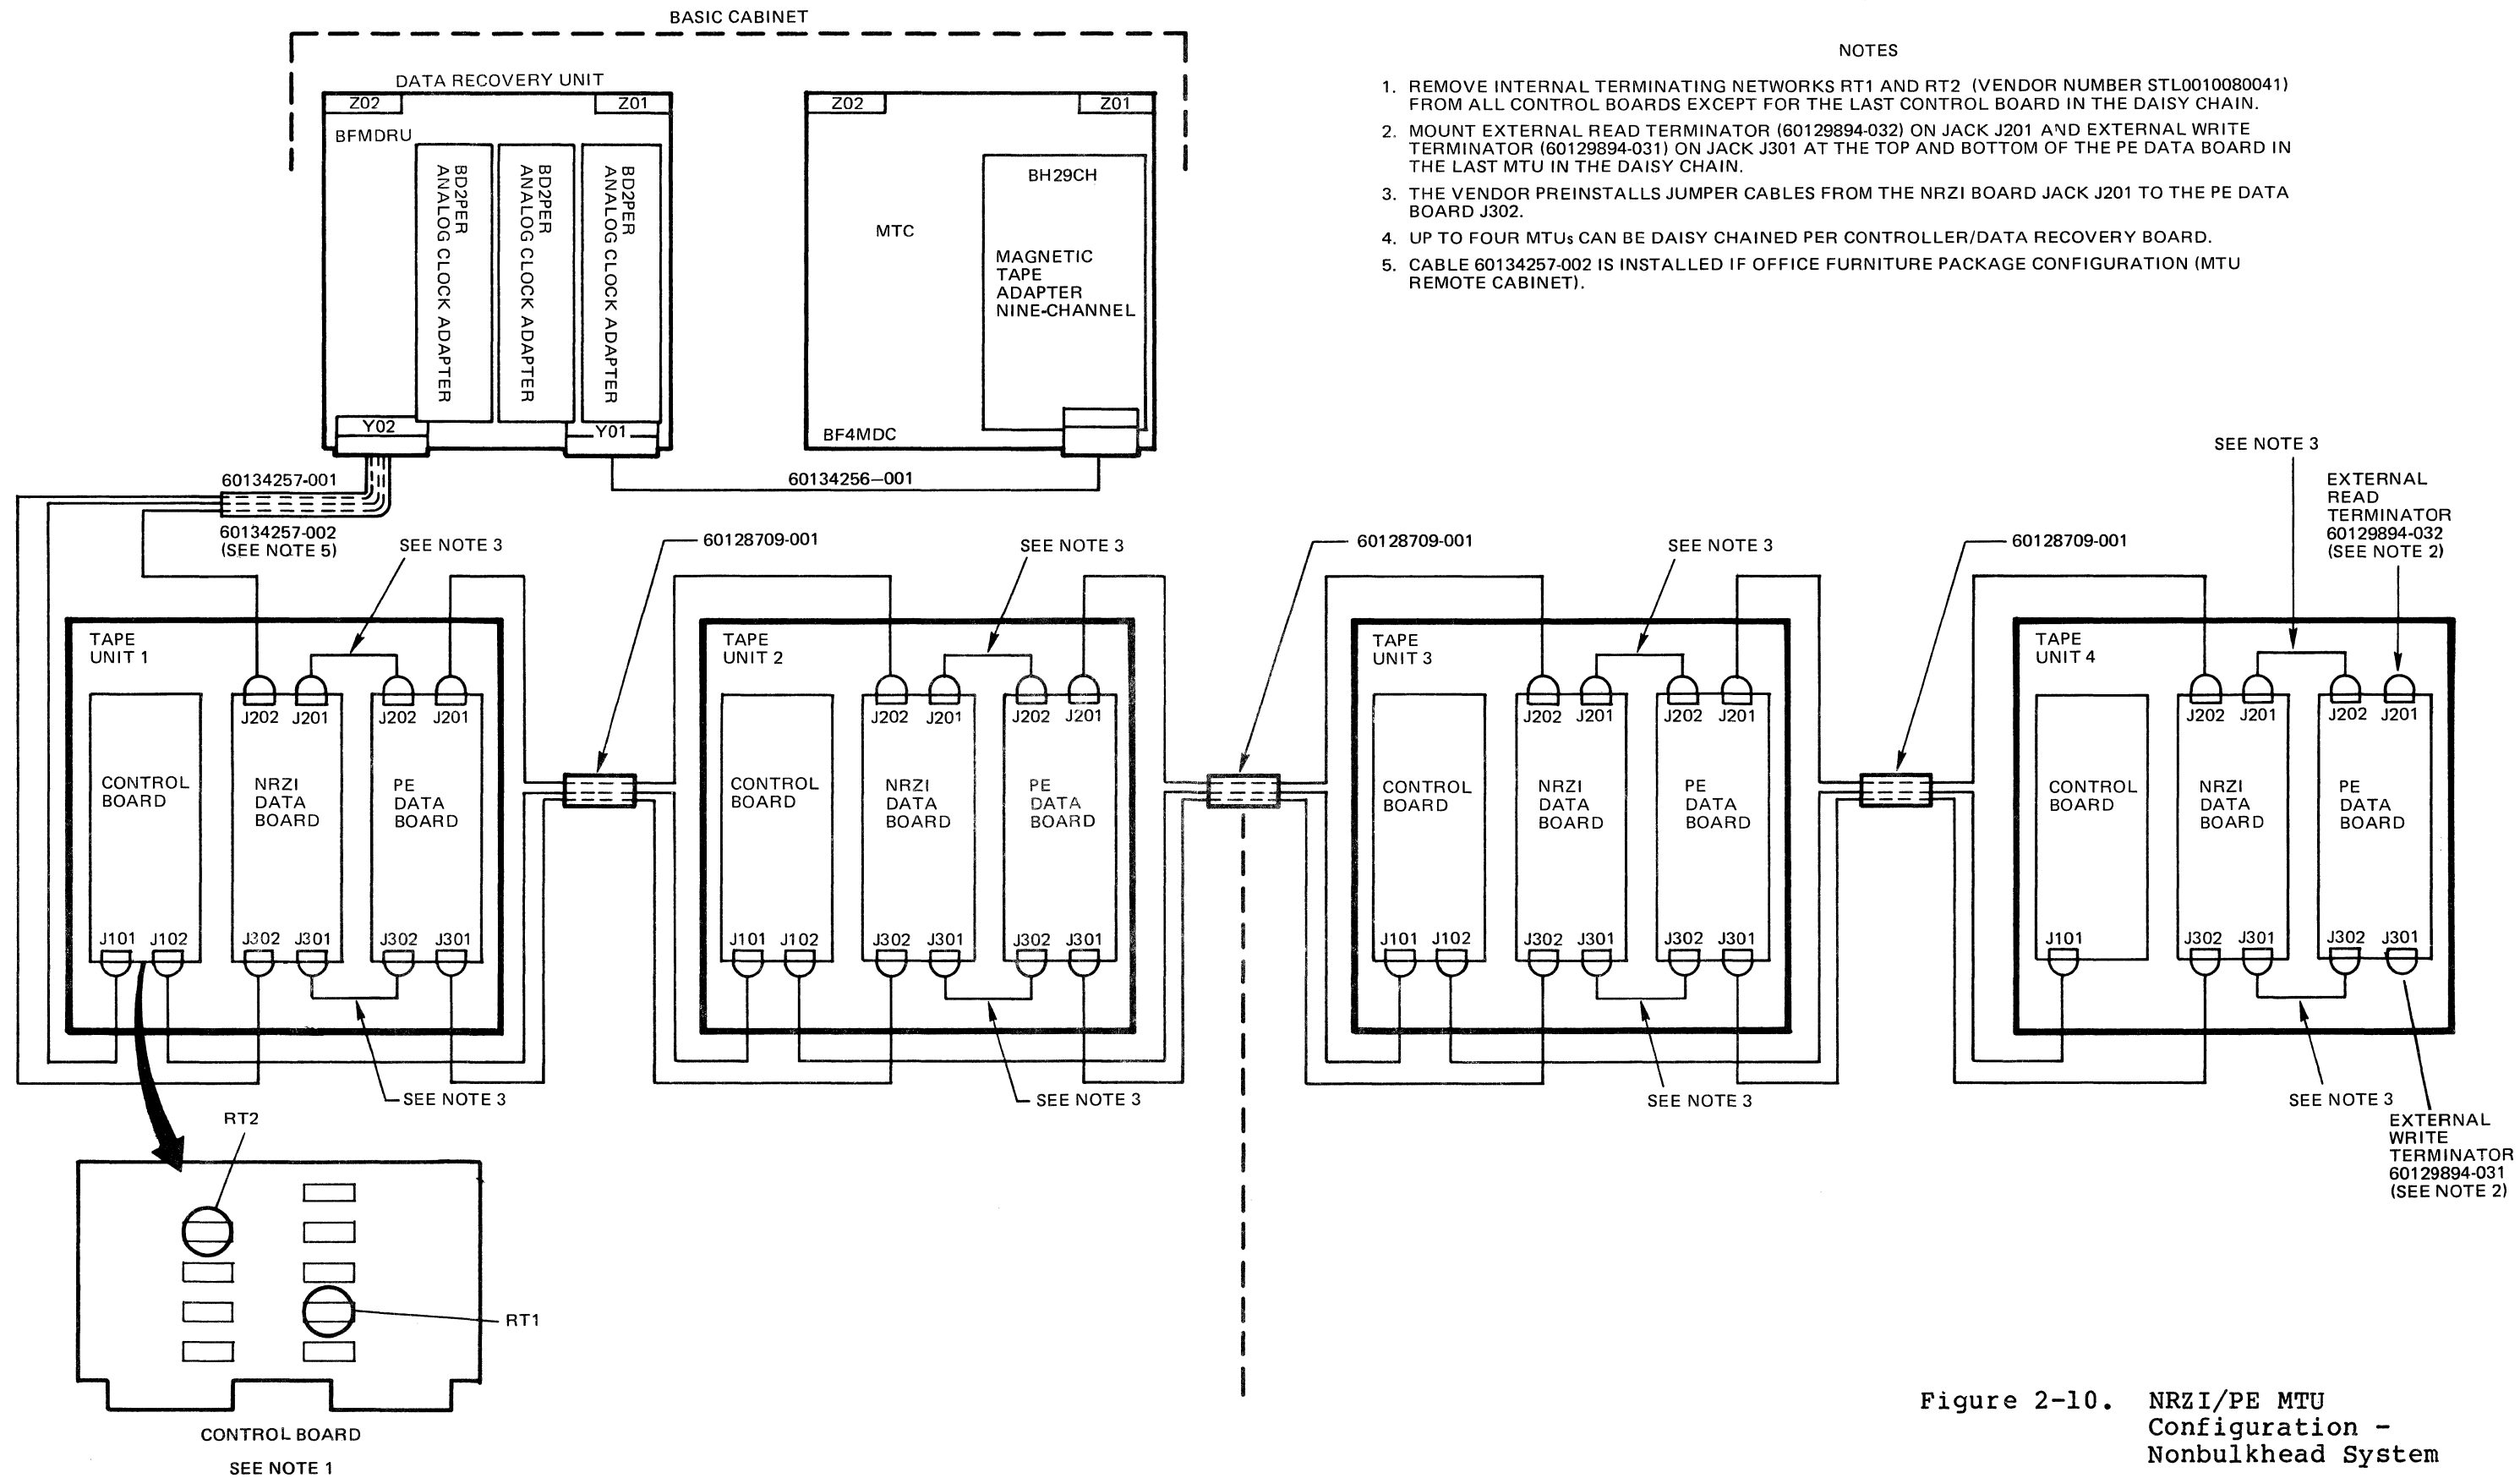

Figure 2-10. NRZI/PE MTU Configuration - Nonbulkhead System
To cable the first MTU from the MTC/Data Recovery Unit in the basic cabinet (see Figure 2-10), perform the following procedures.
Ensure that the first MTU cabling procedures are performed in the configuration (see Figure 2-10). Then, from the first MTU, verify or connect the connector plugs as follows:
2. At the second MTU (see Figure 2-10), verify or connect the connector plugs as follows:
5. Ensure that the last MTU in the daisy chain has the following external terminators (see Figure 2-10) installed and connected as follows:
6. Ensure that the internal terminating networks RT1 and RT2 (see Figure 2-10) are removed from the MTU control board in all MTUs except the last MTU in the daisy chain (terminating network vendor part no. STL001008004).